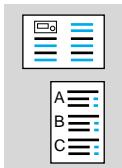

Fig. 114 View of open display housing
6. Lift rear panel of display housing slightly and disconnect loudspeaker connector (1), see Fig. 114.